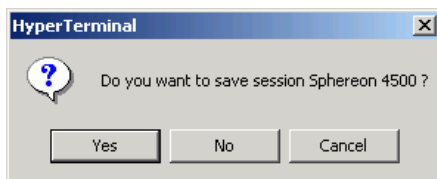

Figure 2-30 HyperTerminal Dialog Box (2)
13. Click *Yes*. A second HyperTerminal message box appears (Figure 2-30):